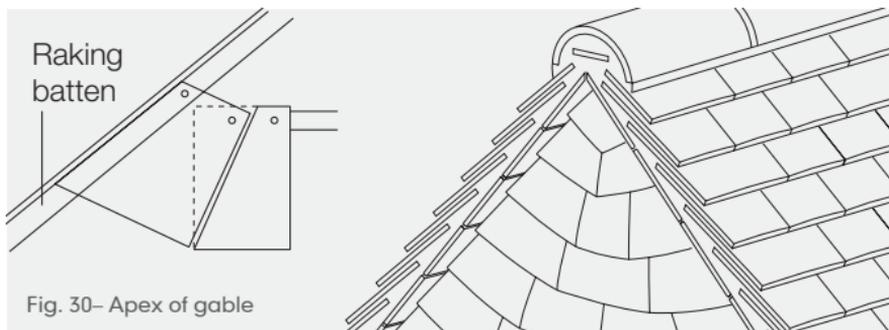

Fig. 30– Apex of gable
- 4 At apex of gable, use a tile-and-a-half tile turned through 45° (subject to roof pitch) and cut to shape to finish (Fig. 30).